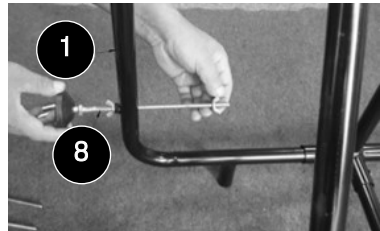

Fig. 6
5. Thread the adjustable rubberized lateral stabilizers (#8) into the U-tubes (#1). Refer to Fig. 6.